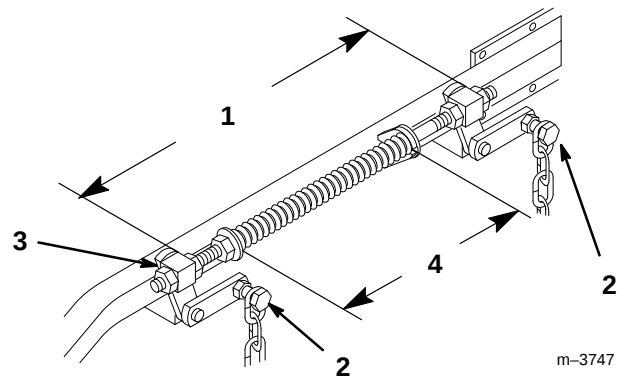

Figure 45
6. Loosen four (4) top chain bolts in slots. Check the length of the rod/swivel assemblies. Distance from outside of rear swivel to outside of front swivel should be 20-1/4" (514 mm) (Fig. 45). Make sure that all four swivels move freely in holes.
13. Springs are compressed so the distance between the two large washers should be 11-1/2" (292 mm) (Fig. 45).
14. Adjust by turning nut in front of each spring (Fig. 45). (clockwise will shorten spring, counter-clockwise will lengthen spring)